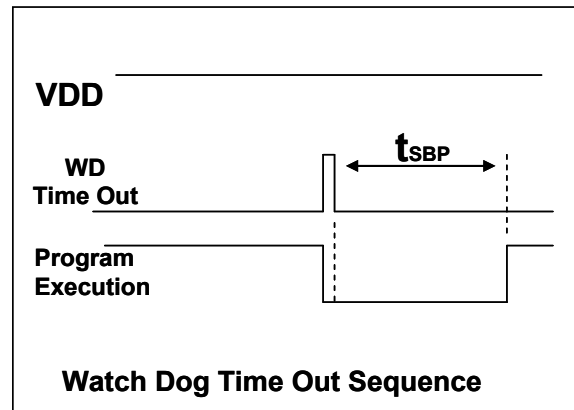

Fig.17: Sequence of Watch Dog Time Out
When WDT is timeout, PMS132(B) will be reset to restart the program execution. The relative timing diagram of watchdog timer is shown as Fig.17.